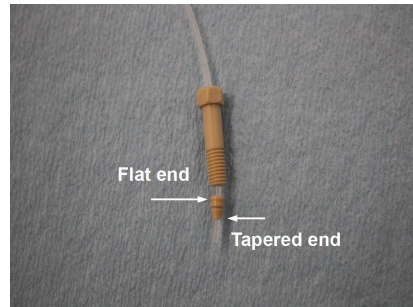

Figure 6: Orientation of the Tan Ferrule.
- The *Tan Ferrule* slides onto the tubing with the tapered end toward the end of the tubing and the flat end toward the *Nut* (Figure 6).